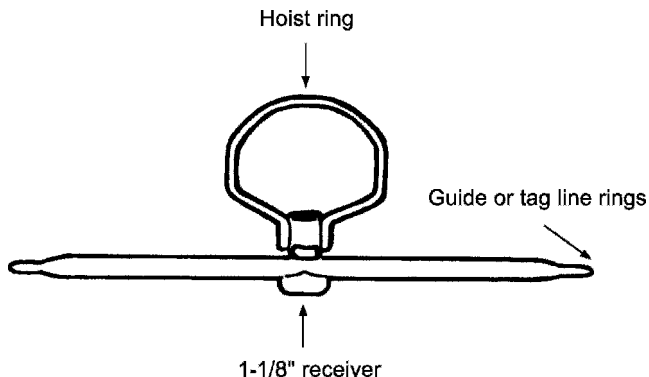

Figure 2.70 Trapeze.
1. As the name suggests, a trapeze (Figure 2.70) is designed to swing over a set where no overhead light is available or where the grid is too high.